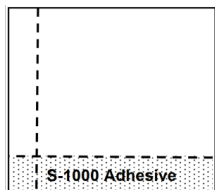

Figure 1: Adhesive Band
- Apply the Adhesive in no larger than 2' or 3' bands (Figure 1), to 1/2 of the area at a time so you can start the installation along the center starting line. Do not apply more adhesive than you can cover within 45 minutes. Allowing a 10-minute open time and fitting the border tile tightly will reduce tile shifting and adhesive oozing. DO NOT allow the adhesive to skin over or dry. If the adhesive skins over or dries, remove it and reapply.